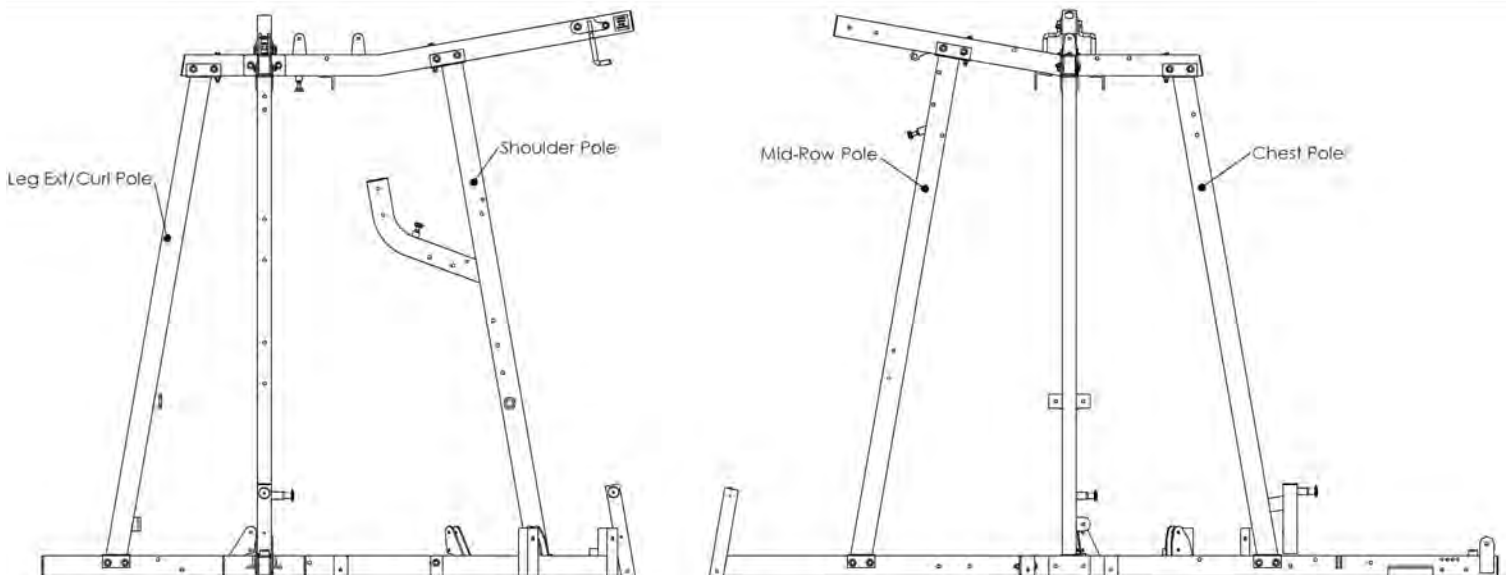

Figure 4
- **Align** the Chest Pole, the Leg Ext/Curl Pole, the Mid-Row Pole, and the Shoulder Pole so that they each are plumb and standing up vertically as shown in Figure 4.